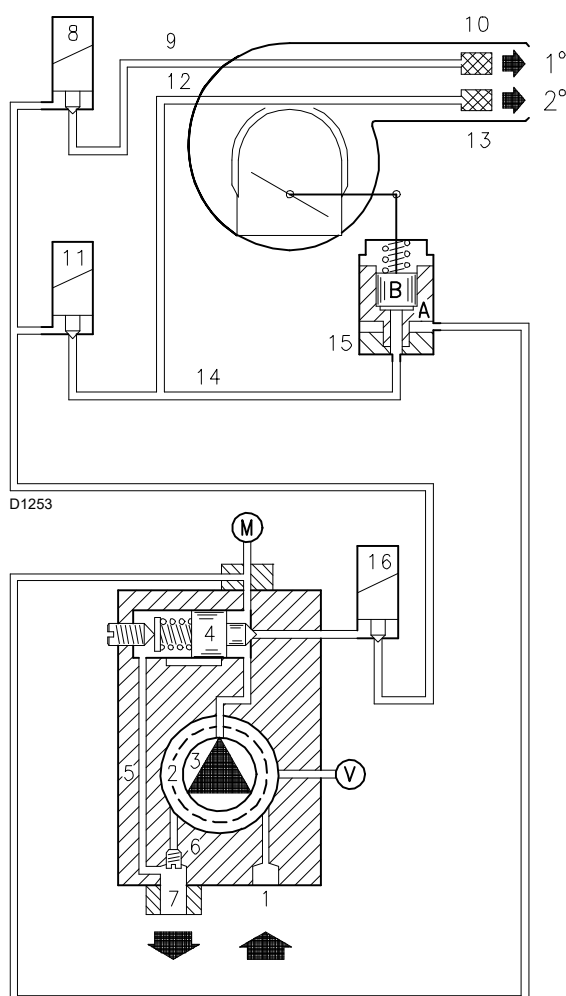

Fig. 27
The pump 3) (Fig. 27) sucks the fuel from the tank through the piping 1) and the filter 2) and pumps it under pressure to delivery.
- When the temperature or the pressure increases until the control device TR opens, solenoid valve 11)(Fig. 27) closes, and the burner passes from the 2nd to the 1st stage of operation.